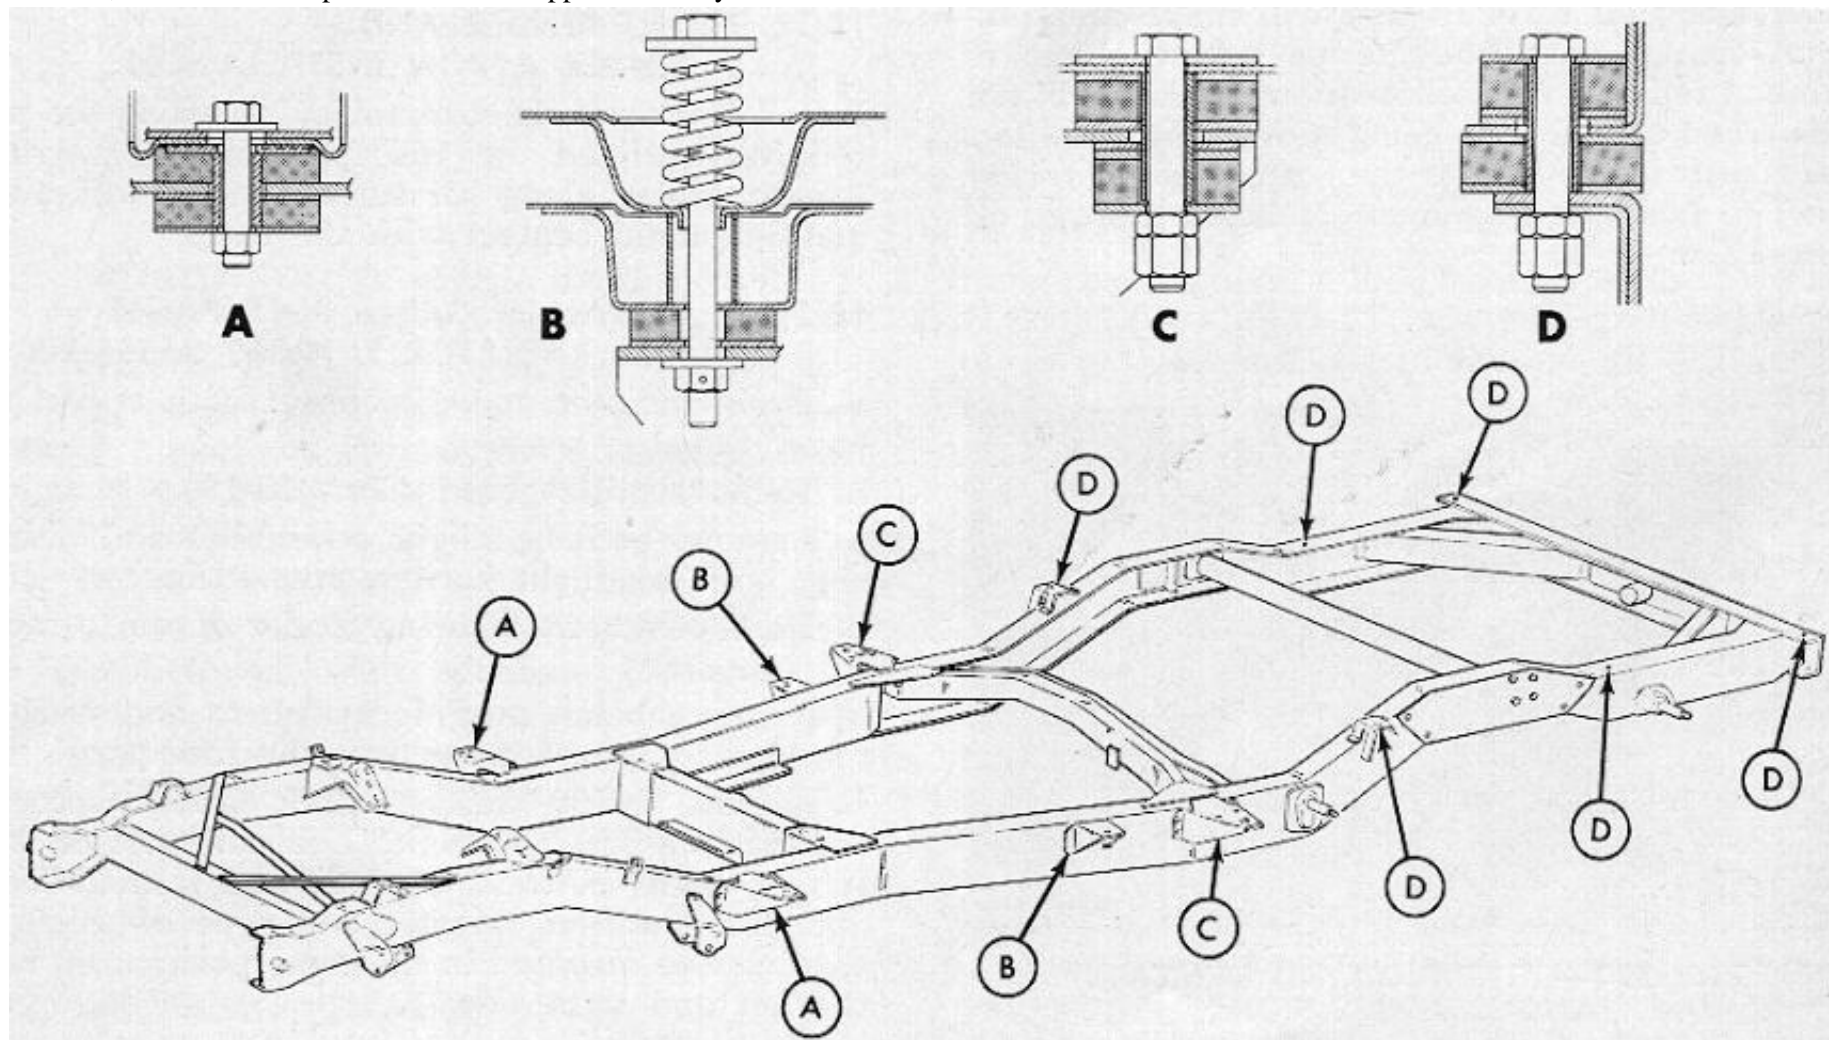

FIG. 18-2—BODY HOLD DOWN LOCATIONS
Refer to Fig. 18-2.
- e. Torque cargo body hold down bolts (C and D) 40 to 63 lbs. ft. and the front cab hold down bolts (A) 18 to 32 lbs. ft. Torque the rear cab hold down bolts (B) until spring is compressed to 21/8 inches. Refer to Fig. 18-2.